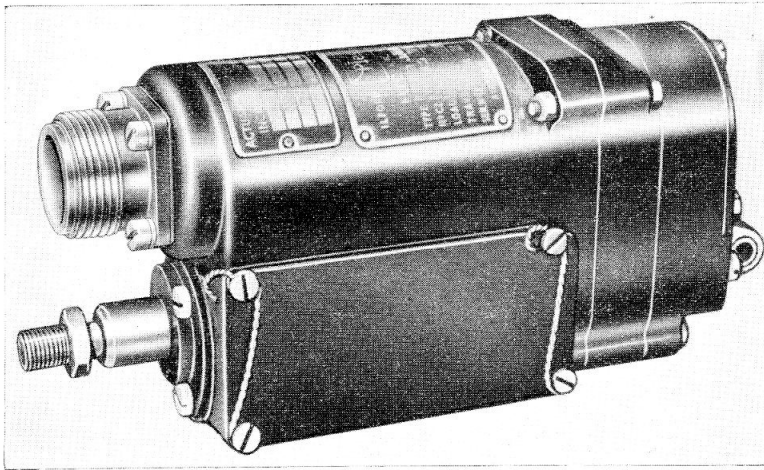
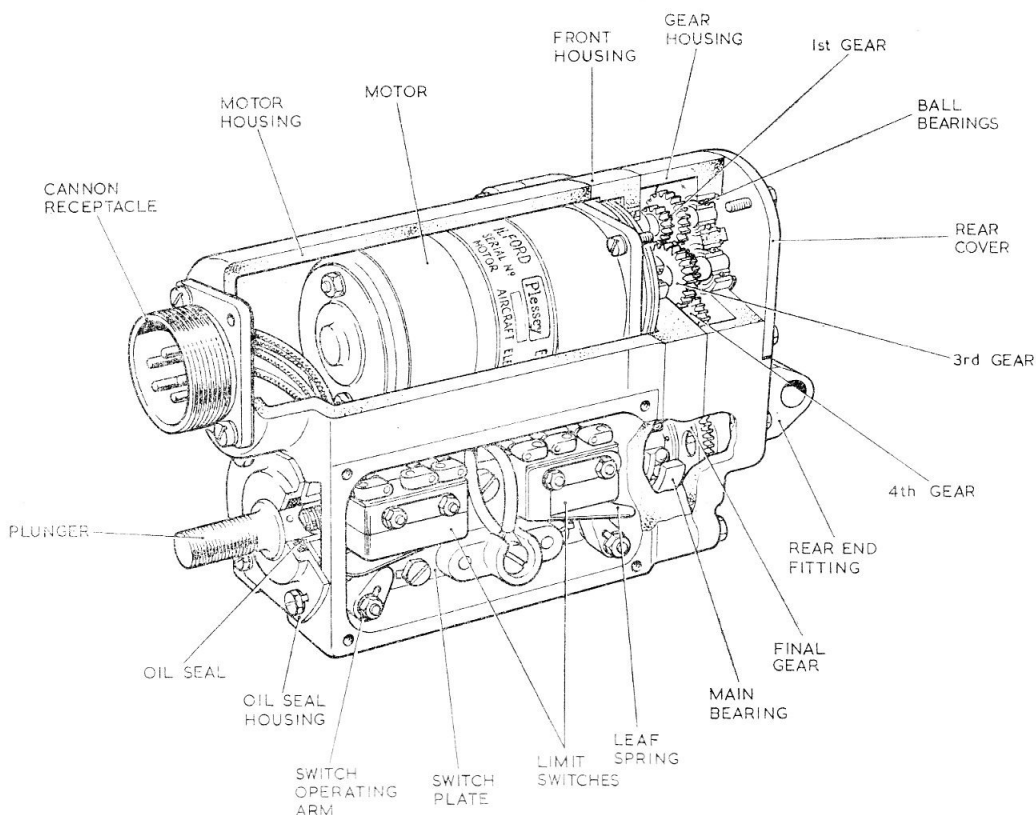
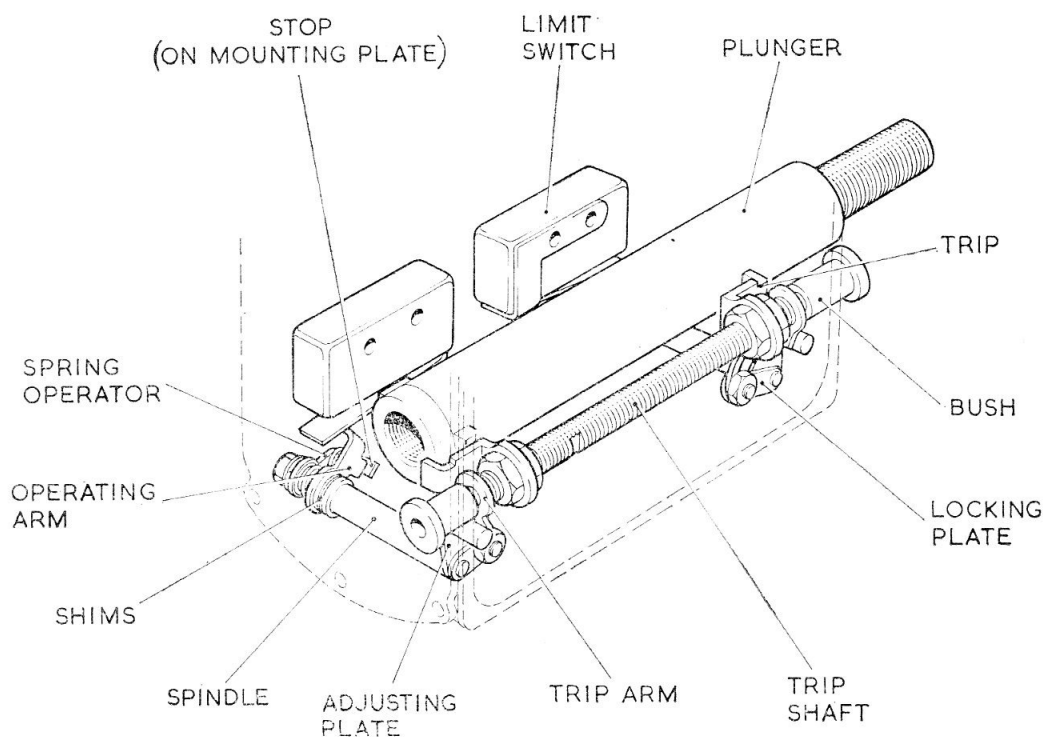

Fig. 1. General view of Cub Jaguar actuator
Fig. 2. Sectional view of Cub Jaguar actuator
Fig. 3. Limit switch operating mechanism
actuator is shown in Fig. 1, and a unit in this series is shown sectioned in Fig. 2.
actuator body. The switches are operated by a mechanism (*fig. 3*) which is tripped by one of the torque-reaction ears on the plunger.
13. In the later versions of the switch operating mechanism, as shown in *Fig. 3*, an adjusting plate is fitted to the trip-shaft end of each transverse spindle to permit adjustment for eliminating backlash. Also, at the limit switch end of the spindles, the
25. Access to the brushgear may be gained after partially dismantling the actuator as follows; Fig. 1, 2 and 3 of the main chapter refer.
(4) Turn the actuator over and unscrew the nuts holding the trip arm nearer the gearbox. Run the inner nut towards the centre and lift the trip arm out of the slot in the housing (a dimple in the trip shaft, shown in fig. 3 is provided for this purpose).
(5) Remove the four bolts surrounding the rear end fitting and also the special nut and bolt underneath.
(6) Slacken the nuts as far as possible on the two upper bolts (which pass through the web of the motor housing (near the label in fig. 1), using two spanners. Crack the actuator at the gasket between the front housing and the gearbox and ease apart unscrewing the two nuts until they fall clear. The gearbox complete with motor and plunger can then be withdrawn from the motor housing.